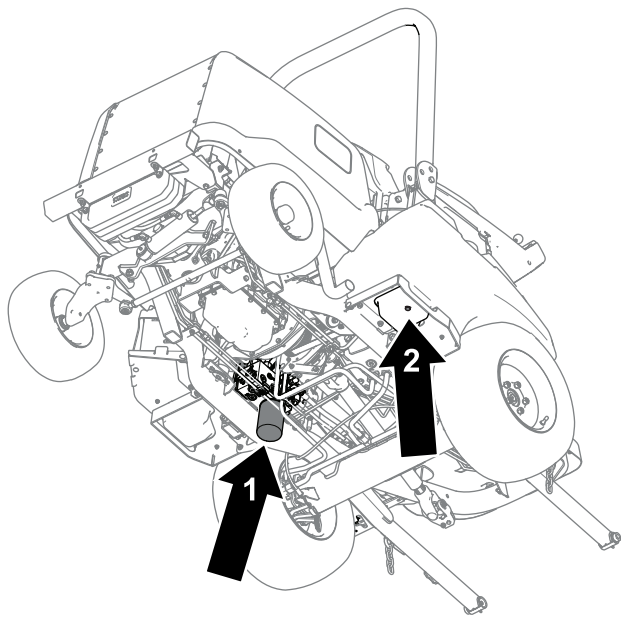

Figure 82
4. Remove the drain plug (Figure 82) from the bottom of the tank and let the hydraulic fluid flow into the pan.
6. Place a drain pan under the filter (Figure 82), remove the filter, and let any remaining oil drain into the pan.